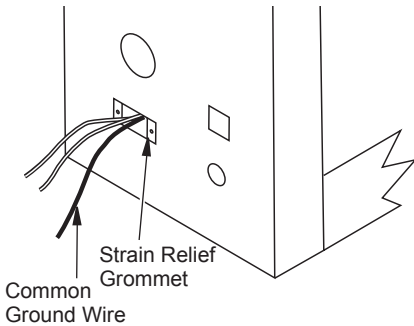

Figure 12 - Wiring Through Outer Surround
2. Using the 18 ga. wires coming through strain relief grommet on side of appliance's outer wall to standard household 120 VAC current through the wall switch provided, as shown in Figure 12, page 9. For more detail, see *Wiring Diagrams*, page 16.